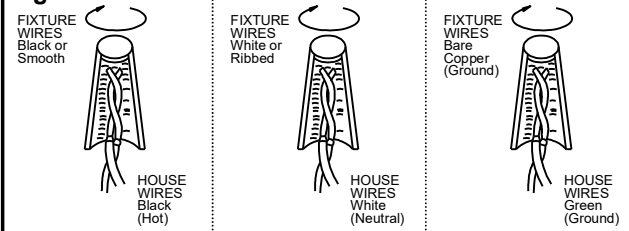

Fig. 5
PREPARATION (Fig. 3 & Fig.5)
- Loosen hex nut (S) by using wrench (W) (not included). Carefully remove washer (T), lock washer (U), L-shaped metal plate (V), canopy (C) and swivel (P) (Fig.5).
- Put plastic washers (K), large glass balls (J), plastic washers (K) through the longer rods on assembly (M), then secure with nut (L). Put plastic washers (K), small glass balls (J1), plastic washers (K) through the shorter rod on assembly (M), then secure with nut (L).
- Thread metal ring (I) onto all thread (G), then thread assembly (M) onto all thread (G) on top of fixture body.